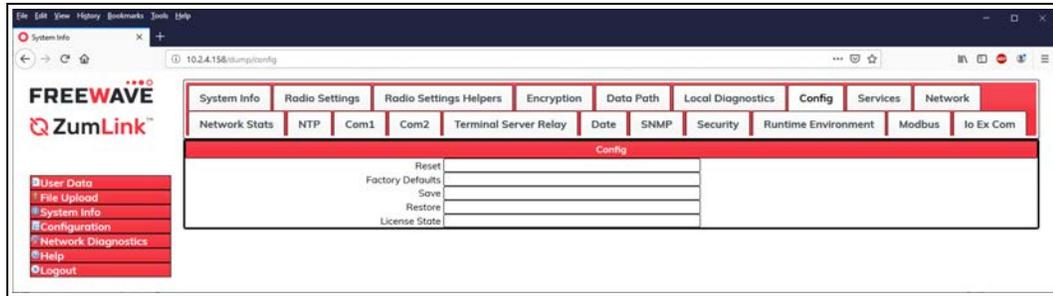

Figure 255: Config window
6. Click the **Config** tab to access the **Config** parameters. Figure 255